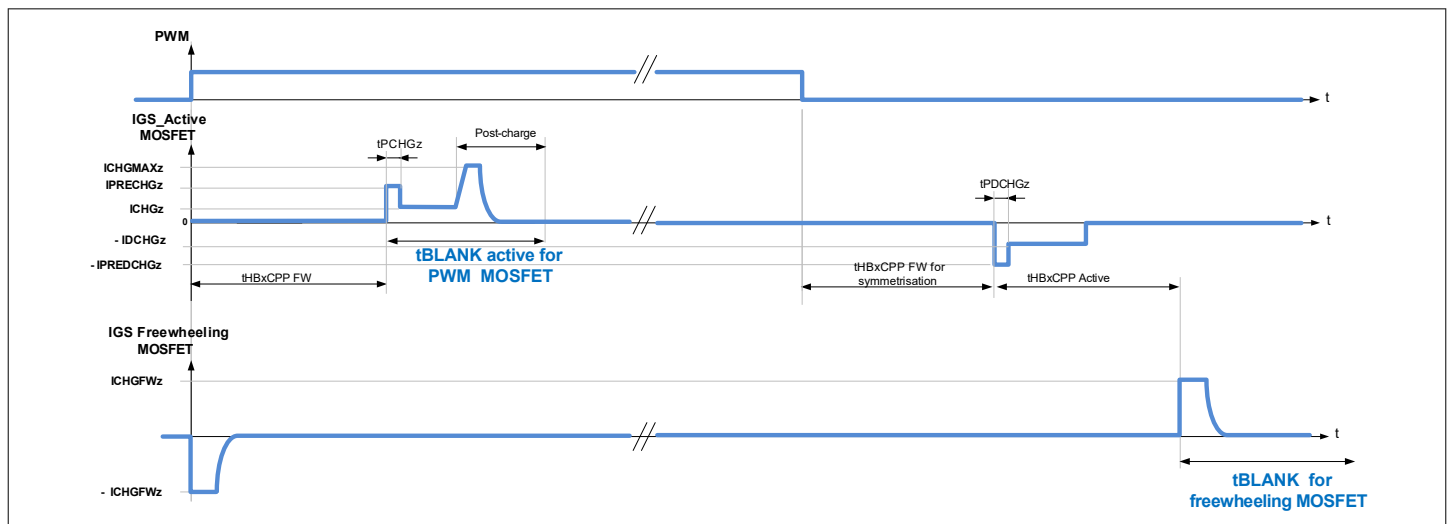
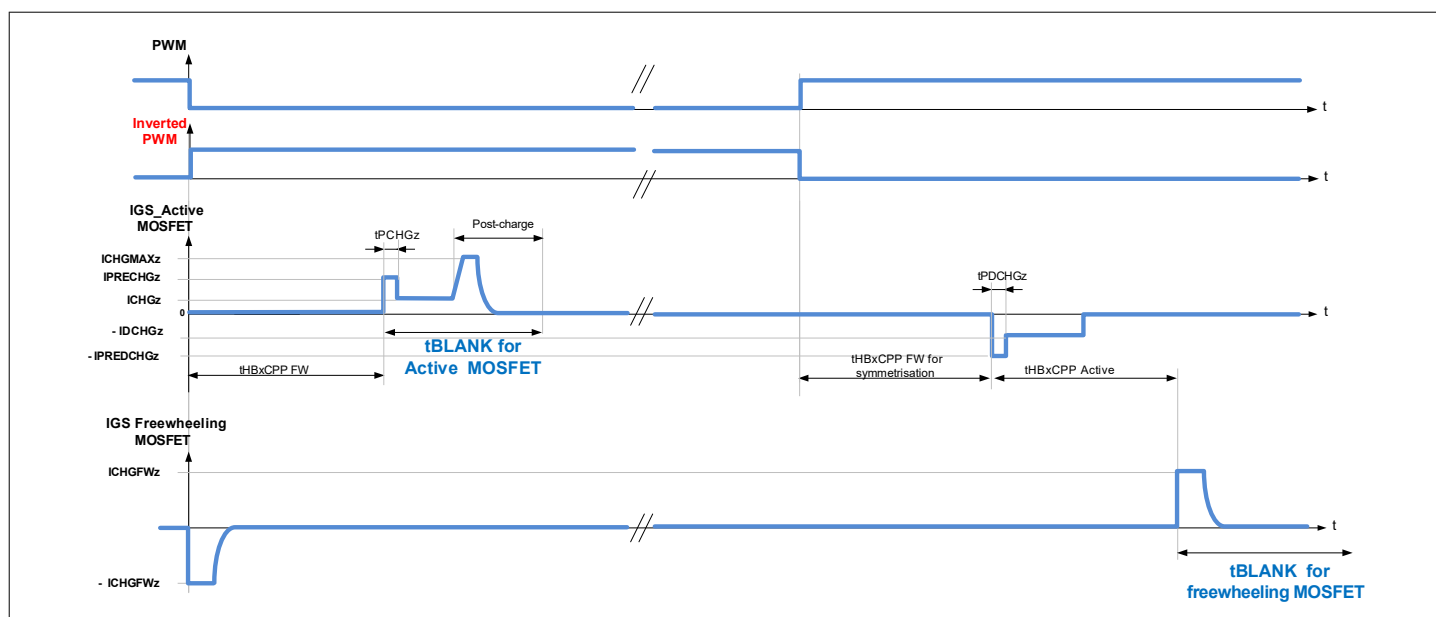

Figure 34 Blank time for half-bridges in PWM operation, detection of generator mode enabled ($EN_GEN_CHECK = 1$), motor operating as load
Figure 35 Blank time for half-bridges in PWM operation, detection of generator mode enabled (EN_GEN_CHECK = 1), motor operating as generator
- The blank time of the Active MOSFET starts at the expiration of the cross-current protection time of the FW MOSFET ($t_{HBxCCP\ FW}$). Refer to Figure 34 and Figure 35.
- The blank time of the FW MOSFET starts after expiration of the cross-current protection time at turn-off of the Active MOSFET ($t_{HBxCCP\ Active}$). Refer to Figure 34 and Figure 35.